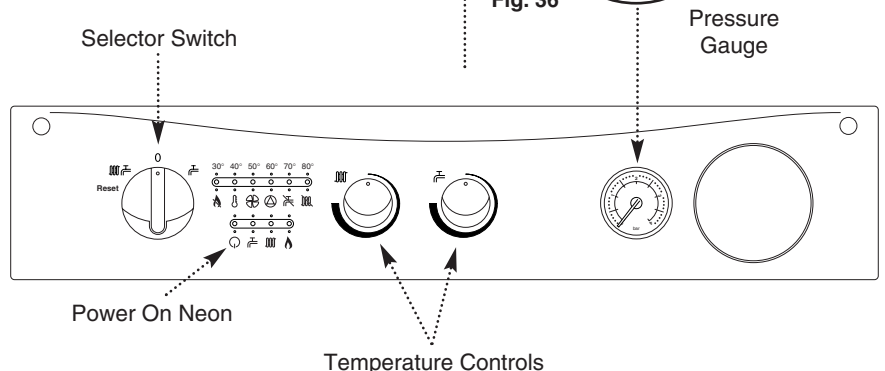

Fig. 37
2. Set the temperature controls to maximum and the selector switch to the Off position (Fig. 37).
5. Turn the selector switch fully anticlockwise against the spring pressure to the reset position and hold for 2 seconds to reset the boiler (Fig. 37).
6. Turn the selector switch to the Central Heating and Domestic Hot Water position (☀️). The power On neon (⊕) will illuminate (Fig. 37).